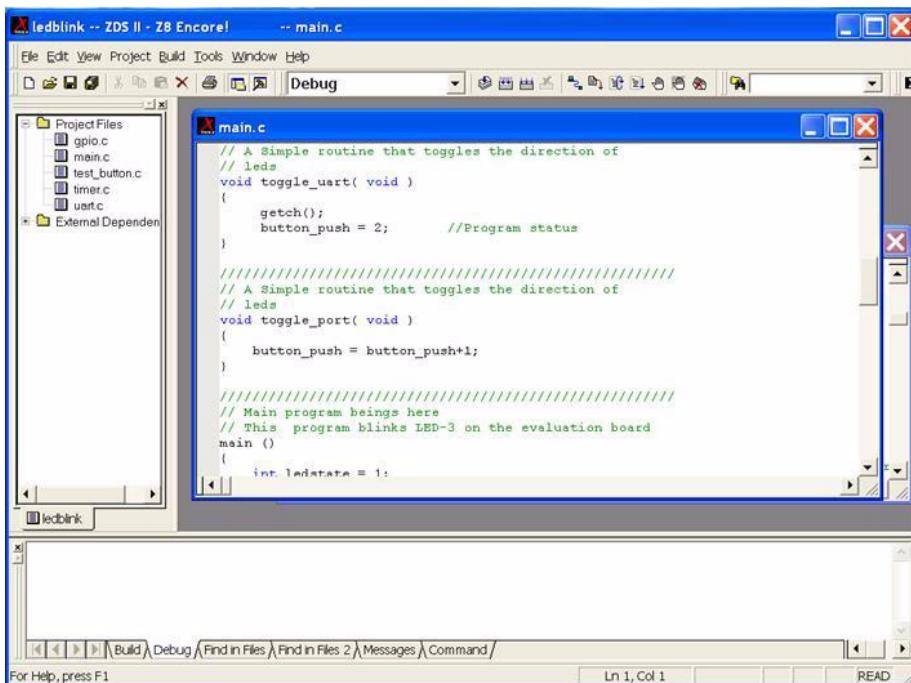

Figure 2. ZDSII Opening Screen
7. Select the ledblink.zdsproj file and click Open. The initial ZDSII program screen opens (see Figure 2 on page 6).